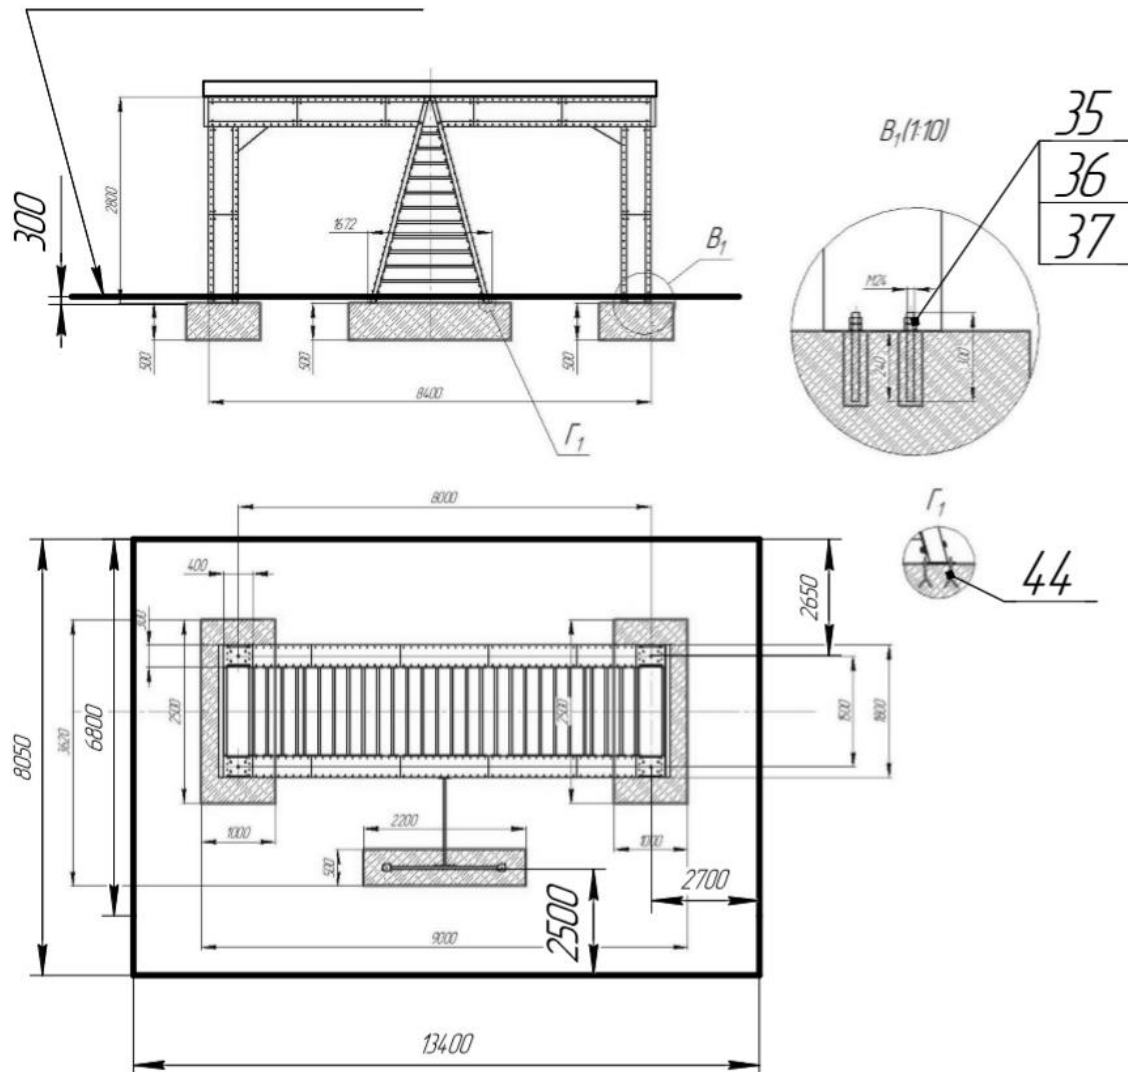
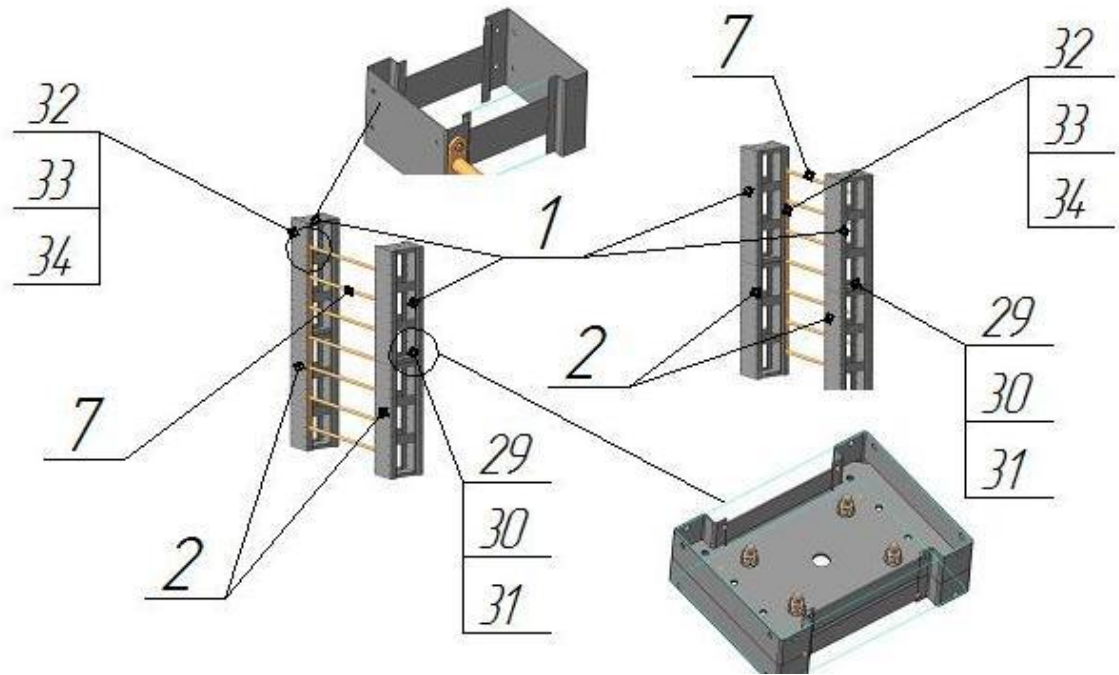
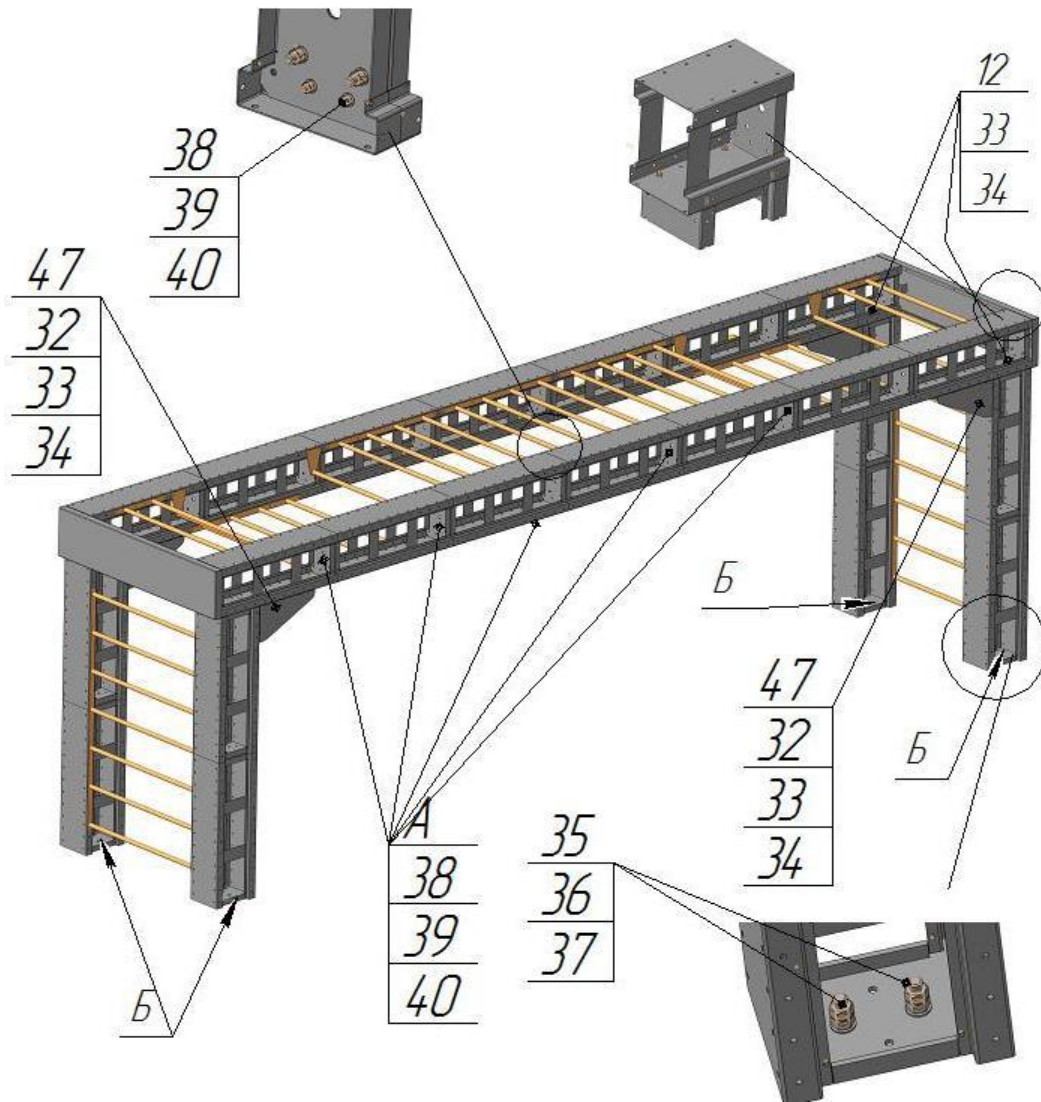
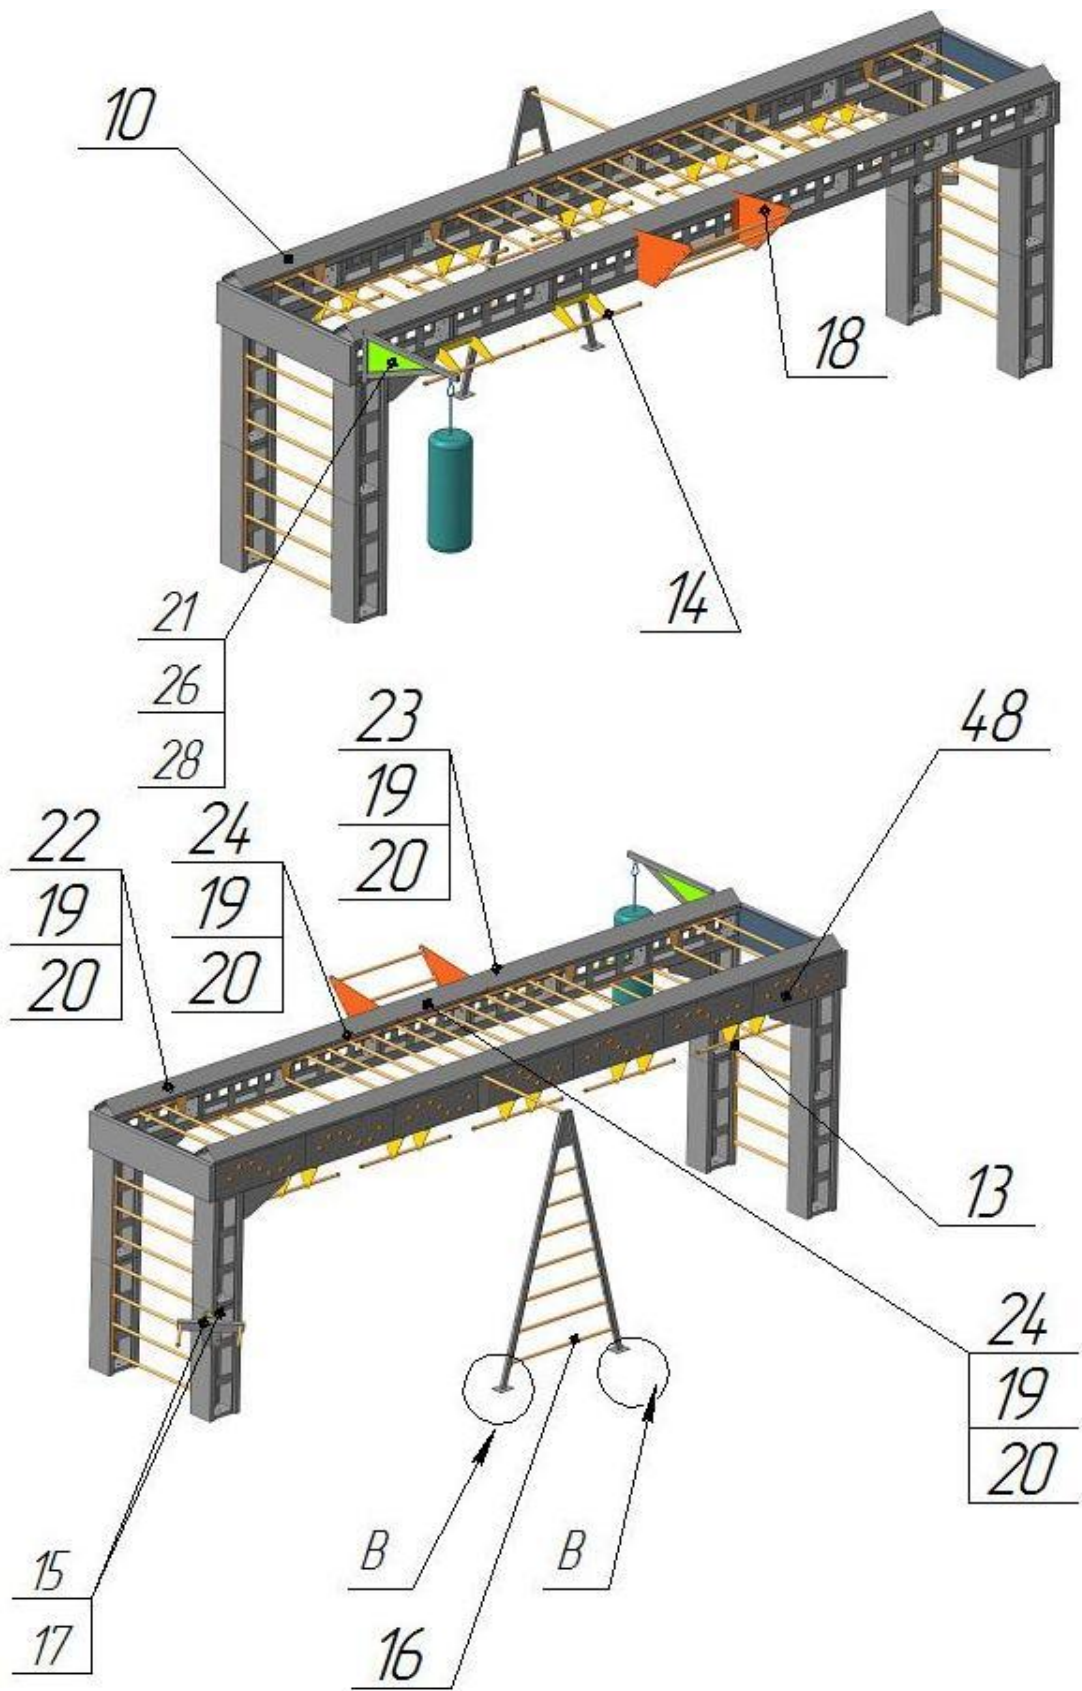

Fig.1
Fig.2
Fig.4
Fig.5
- 3.2 Install on prepared concrete surfacing according to the scheme Fig.1 with the use of anchored reinforcements № 35, 36, 37, 44. Concrete grade used in the manufacture of concrete surfacing should be at least M250.
- 3.5 Assemble the side panels, see fig.2 consisting of assembly units № 1, 2, 7 (see table 2) and metal items № 32, 33, 34, № 29, 30, 31. Do not tighten the threaded connections. Install vertically on prepared concrete pads according to fig.1.
3.7 Using lifting-transport device install the upper part of complex on the previously assembled side panels, see fig. 4 and fix it with the help of metal hardware № 12, 33, 34. Install parts № 47. Perform a final tightening of all threaded connections 25...30H*m. Additionally in places "A" install bolted connections № 38, 39, 40.
- 3.8 In places "Б" with the help of anchor connections №35 and metal hardware № 36, 37, see Fig.4 and Fig.1 secure the construction to the prepared concrete surfacing.
- 3.9 Install the equipment included in delivery according to Fig.5
- 3.10 In places "B" (fig.5) with the help of anchors № 44 secure assembly units №16 to the prepared concrete pads (fig.1)